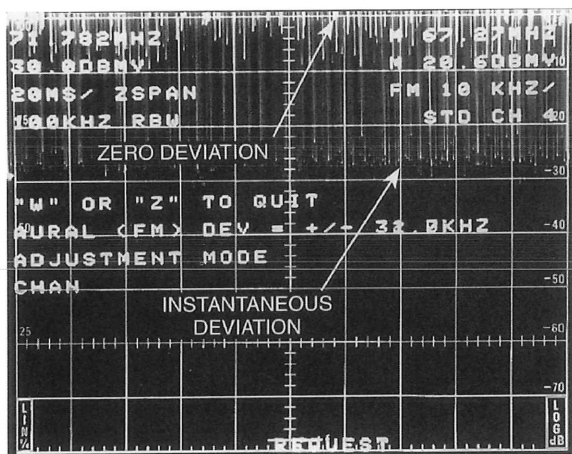

Figure 21. Frequency deviation using the 2714/2715's Adjustment mode.
2. Enter the AURAL (FM) DEVIATION menu on the CATV MEASUREMENTS menu by pressing [CATV/APPL] / [4].
3. Select ENTER ADJUSTMENT MODE by pressing [6]. Figure 21 shows a typical display using a constant-amplitude tone. The readout and the downward deflection of the trace indicate the amount of deviation. Typical displays of active signals vary widely depending on program content. The wide variations in deviation should normally be ignored when analyzing this type of display.